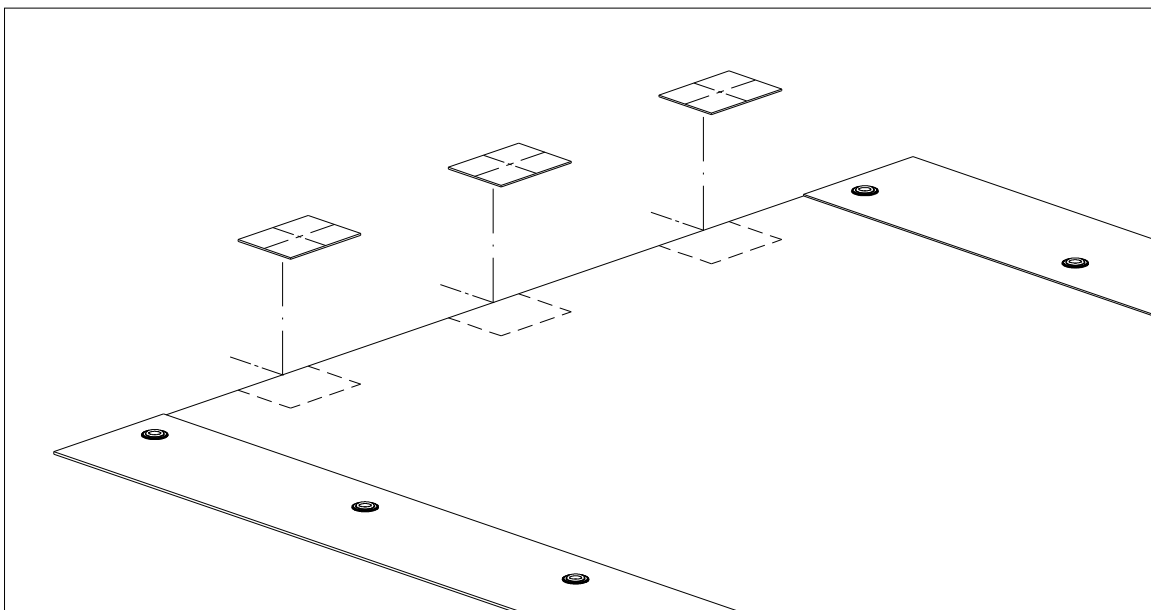

Figure 1
4. Using a tape measure and pencil, mark the center of each edge reinforcement panel. Lay out and mark the grommet or anchor spacing from the center of each edge reinforcement panel (see Figure 1).